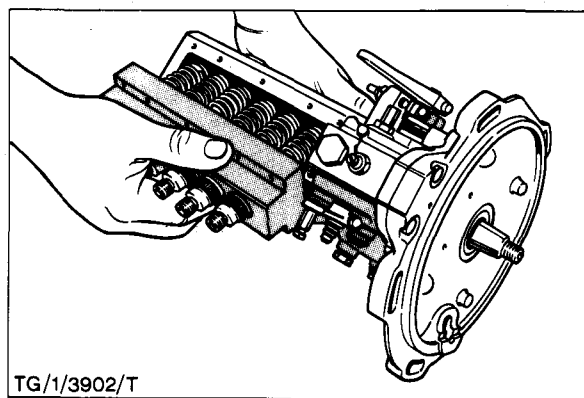

Fig. 82 - Assembling the Pump Body to the Cambox
5. Hold the pump body assembly on its side with the plunger arms all parallel and pointing downwards as shown in Fig. 82. Assemble the pump body to the cambox and engage the plunger arms in the control forks. Rotate the complete unit to the vertical plane and check that the plunger arms are all correctly located in the forks.